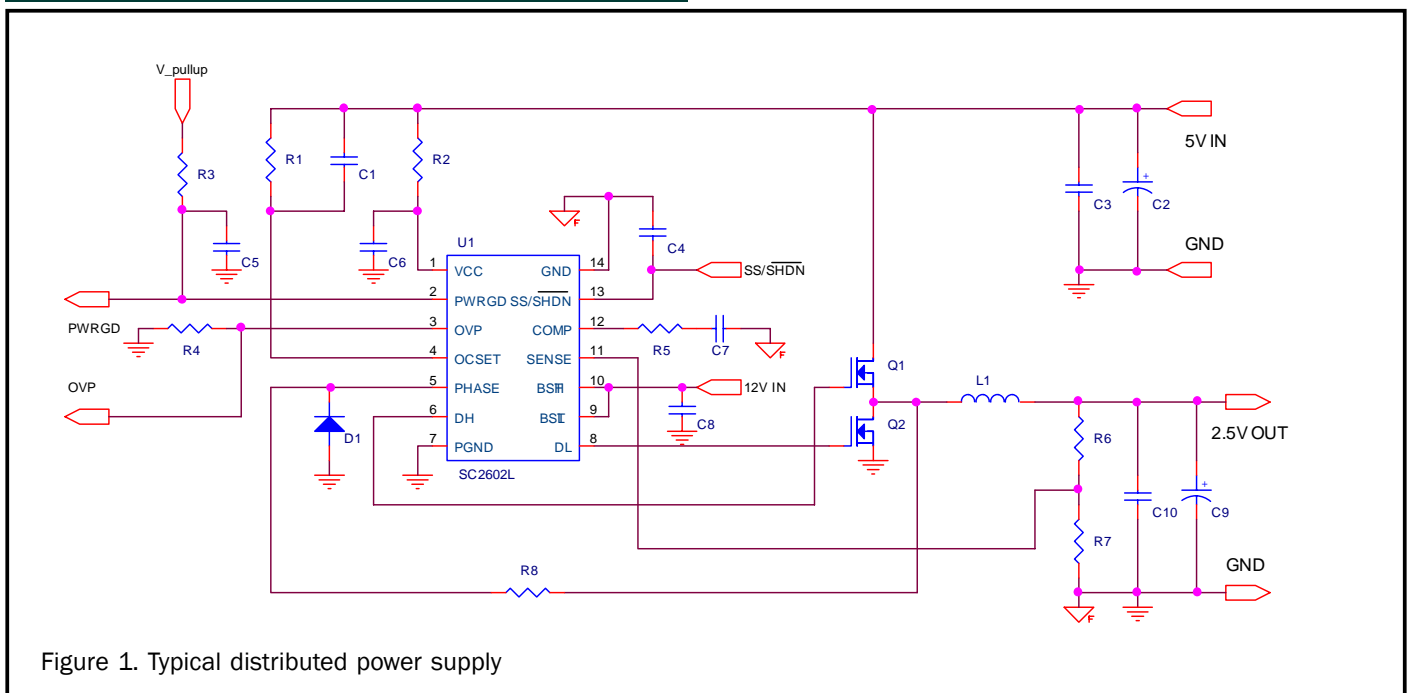

Figure 1. Typical distributed power supply
(1) Specification refers to application circuit (Figure 1).
The output voltage of the synchronous converter is set and controlled by the output of the error amplifier. The external resistive divider reference voltage is derived from an internal trimmed-bandgap voltage reference (See Fig. 1). The inverting input of the error amplifier receives its voltage from the SENSE pin.